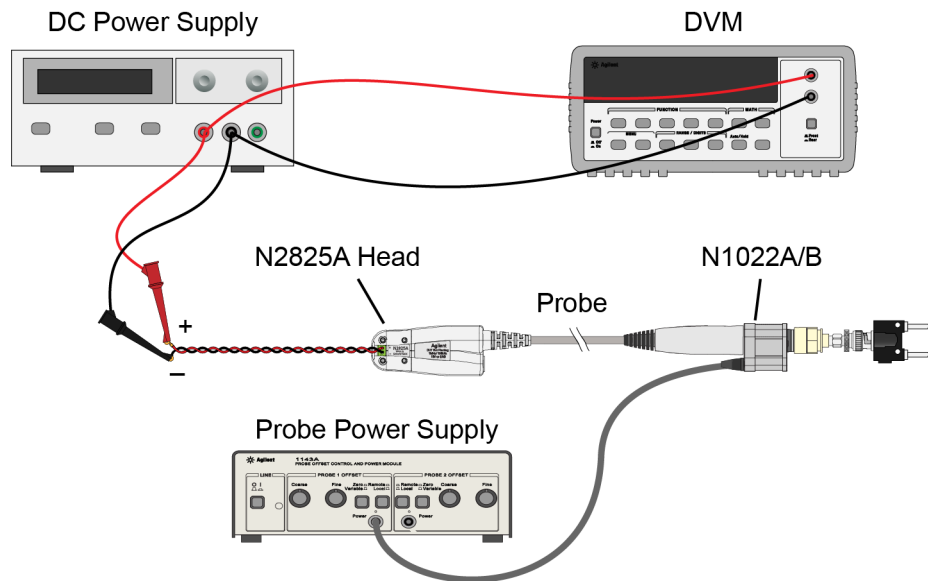

Figure 51 Test Setup for Measuring V_{in}
- 1 Snap an N2825A head onto the N2820/1A probe and connect the test equipment as shown in Figure 51. Be sure to connect the positive side of the DC supply to the red lead on the N2825A head.
- 8 Connect the multimeter on the DC power supply as shown in Figure 51 on page 101.